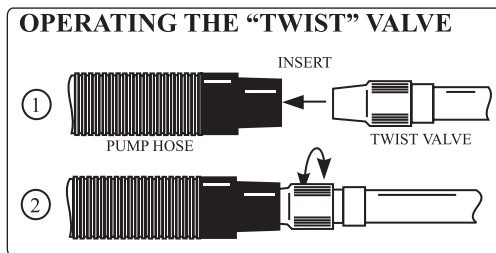

Figure 2. Inflate/Deflate Twist Valve
The Twistlok™ valve found on the seat is a simple and reliable low-pressure valve that is compatible with most standard pumps but can also be operated by mouth. *Figure 2* on the next page details how to operate this valve.
4. Inflate the seat cushion to desired comfort (1.0 psi **MAX**) via the Twistlok Valve (See Figure 2). Attach the seat by using the large seat clips and adjust for desired support. To keep seat backrest upright, you can adjust and clip the smaller seat clips to the d-rings located directly behind the seat position.